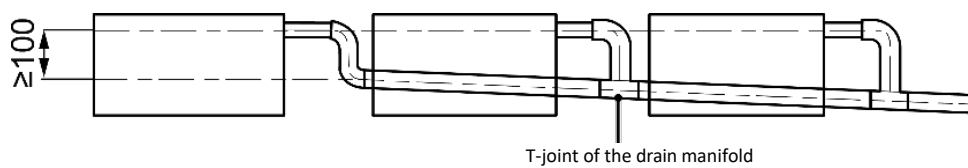

Fig. 4.3.4
- ④ When connecting multiple drain pipes, follow the instructions shown in Fig. 4.3.4. The drain pipes must have a slope of at least 1% to 2%. Select a drain manifold that matches the unit's capacity.